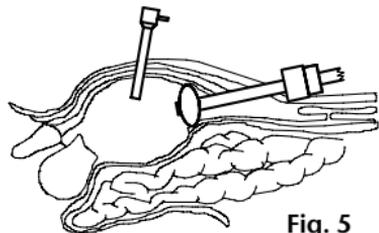

Fig. 5
- If the extraperitoneal space is adequately prepared, air is discharged from the distension balloon by removing the endoscope and opening the insufflation valve. If required, you may use the black suction port of the ball pump to evacuate the air. Carefully remove the (bilateral) PAJUNK® distension balloon system and replace it by a PAJUNK® trocar system, a PAJUNK® structural or ring-anchor balloon system or another suitable instrument (see fig 5).